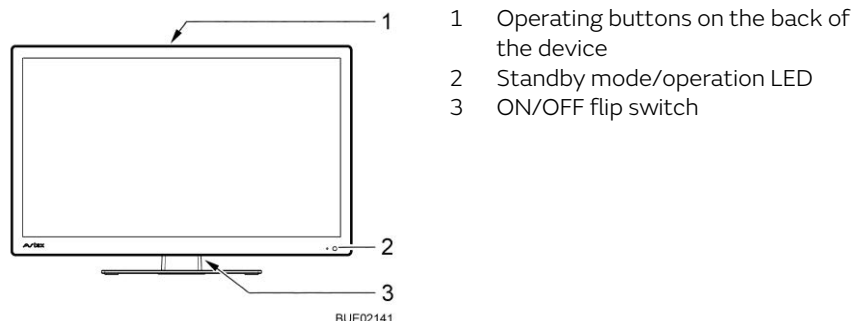
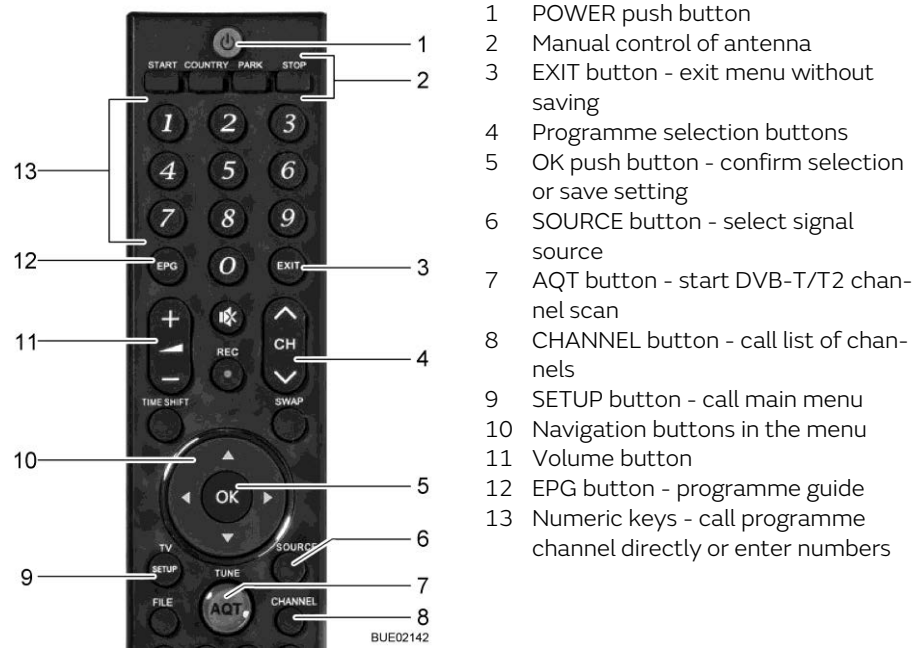

Fig. 56 Operation on the flat screen
Fig. 57 Remote control
- Set flip switch (Fig. 56,3) on the flat screen's back to ON. The system changes to standby mode. The LED (Fig. 56,2) is lit red.
- Press the POWER button (Fig. 57,1) on the remote control. The LED (Fig. 56,2) is lit blue.
- Press the programme selection buttons (Fig. 57,4 or Fig. 57,13) until the desired TV programme has been selected.
- Press the SOURCE button (Fig. 57,6) repeatedly until the desired signal source has been selected.
- Press the PARK button (Fig. 57,2). The antenna moves into parking position.
- Press the SOURCE button (Fig. 57,6) repeatedly until the desired signal source (e.g. DVD) has been selected.
- Press the POWER button (Fig. 57,1) on the remote control. The system changes to standby mode. The LED (Fig. 56,2) is lit red.
- Set flip switch (Fig. 56,3) on the flat screen's back to OFF.